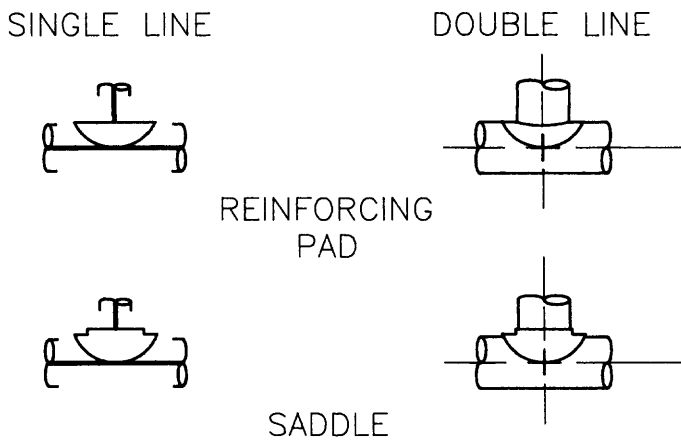

Figure 3-32. Reinforcing pads and saddles.
- **Welding saddle.** A purchased reinforcing pad, the welding saddle has a short neck designed to give additional support to the branch. Figure 3-32 shows